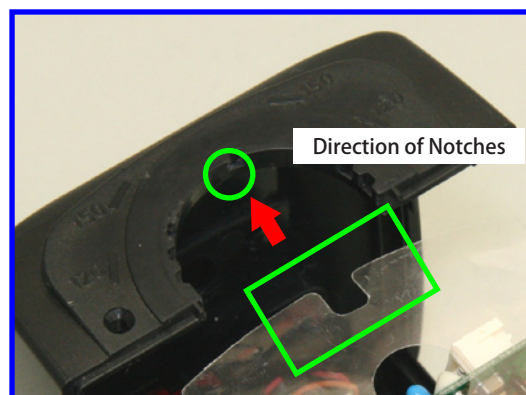

Fig. 007 Alignment of the Dust-proof Sheet
- To attach the front cover, align the notches on the Dust-proof Sheet with the protrusion on the back side of the Front Cover. (Fig. 007)